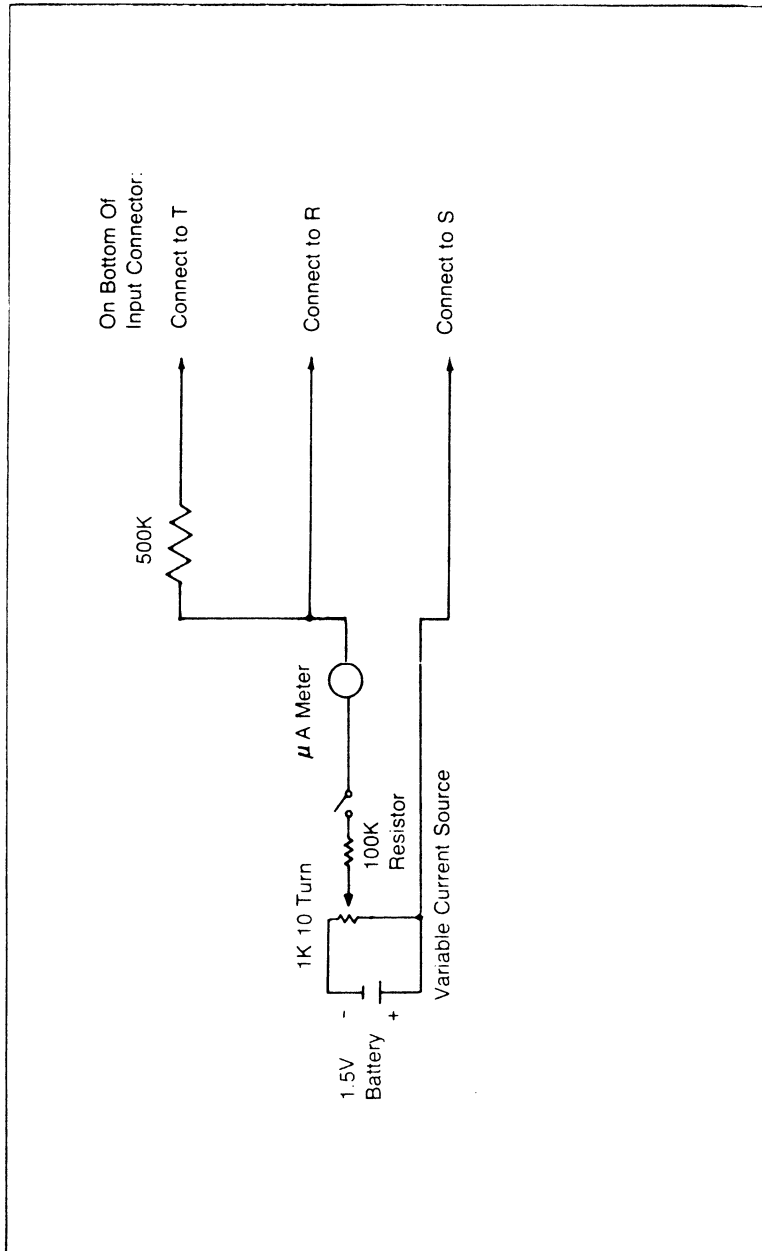

Figure 6. Calibration Current Source
- Variable current with a range from .005uA to 1.0uA. Note: See Figure 6 for a calibration current source.
To check for proper ranging of the unit, connect the current source to the input connector as designated on Figure 6.
Disconnect the sensor from the sensor input jack. Connect a 500K resistor between pin 2 of integrated circuit A1 and the junction between resistors R1 and R3. Connect a variable source between pin 3 (-) and 2 (+) of integrated circuit A1. Set the current source for an output of .00500 microamps. (Same as Figure 6.)